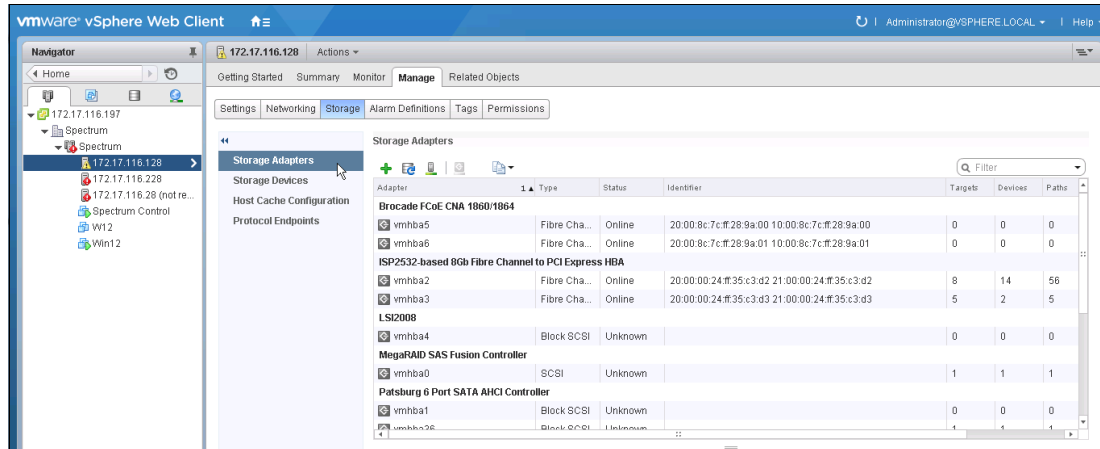

Figure 5-26 Select new iSCSI software adapter
9. Check whether an iSCSI software adapter is available. Select **Storage Adapters** on the Manage tab (see Figure 5-26).